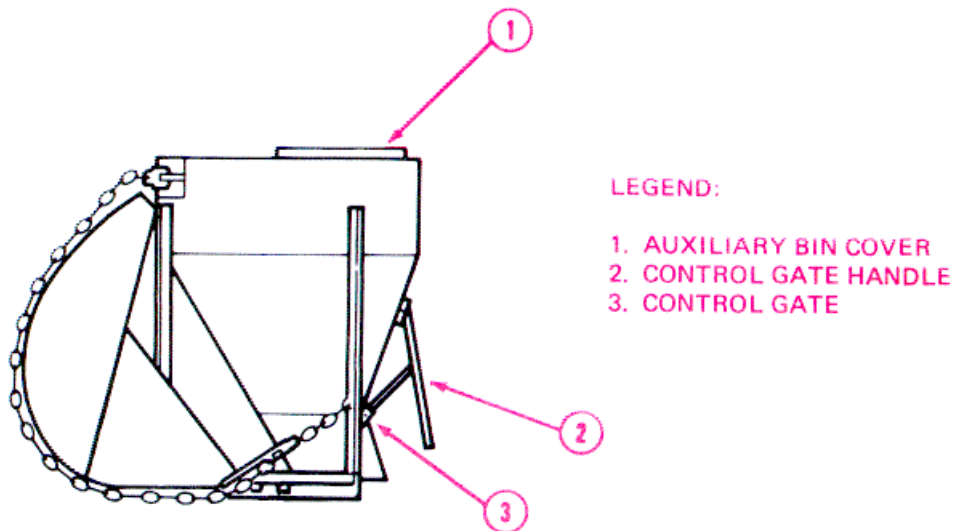
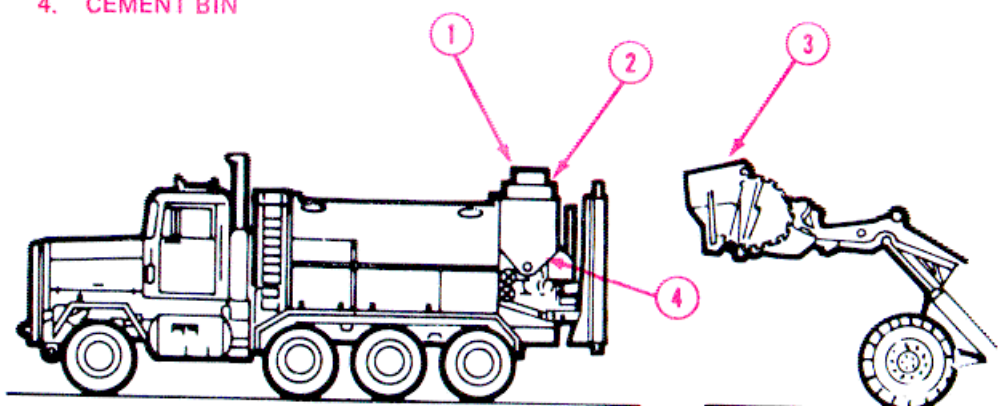

Figure 2-49. Filling the Auxiliary Cement Bin.
Figure 2-50. Loading the Mixer.
b. Fill the Auxiliary Cement Bin. (Fig. 2-49)
- (1) Close the control gate (3) on the auxiliary cement bin by pushing the control gate handle (2) down.
- (2) Remove the auxiliary bin cover (1).
- (3) Fill the auxiliary bin with cement (18 to 20, 94 pound (42.7 kg) bags).
- (4) Install cover (1).
- c. Load Cement In the Quick Loading Hopper. (Fig. 2-50).
- (2) Remove the square cover (1, fig. 2-50) from the quick loading hopper (2).
- (4) Approach the mixer from the left side and raise the auxiliary cement bin (3, fig. 2-50) until it clears the quick-loading hopper (2).
- (5) Keeping the auxiliary cement bin (3) vertical, position the opening in the auxiliary cement bin (3) over the quick-loading hopper (2).
- (6) Carefully lower the auxiliary cement bin (3) so that it is close to the mixer cement bin (4) without touching it.
- (7) Open the control gate by pulling up on the control gate handle (2, fig. 2-49) and allow ail cement to fall into the cement bin (4, fig. 2-50).
- (8) When the auxiliary cement bin (3) is empty, close the control gate by pushing down on the control gate handle (2, fig. 2-49).
- (9) Lower the auxiliary cement bin to the ground.
- (10) Put the square cover (1, fig. 2-50) on the quick-loading hopper (2) and disconnect the vibrator air line (fig. 2-19).